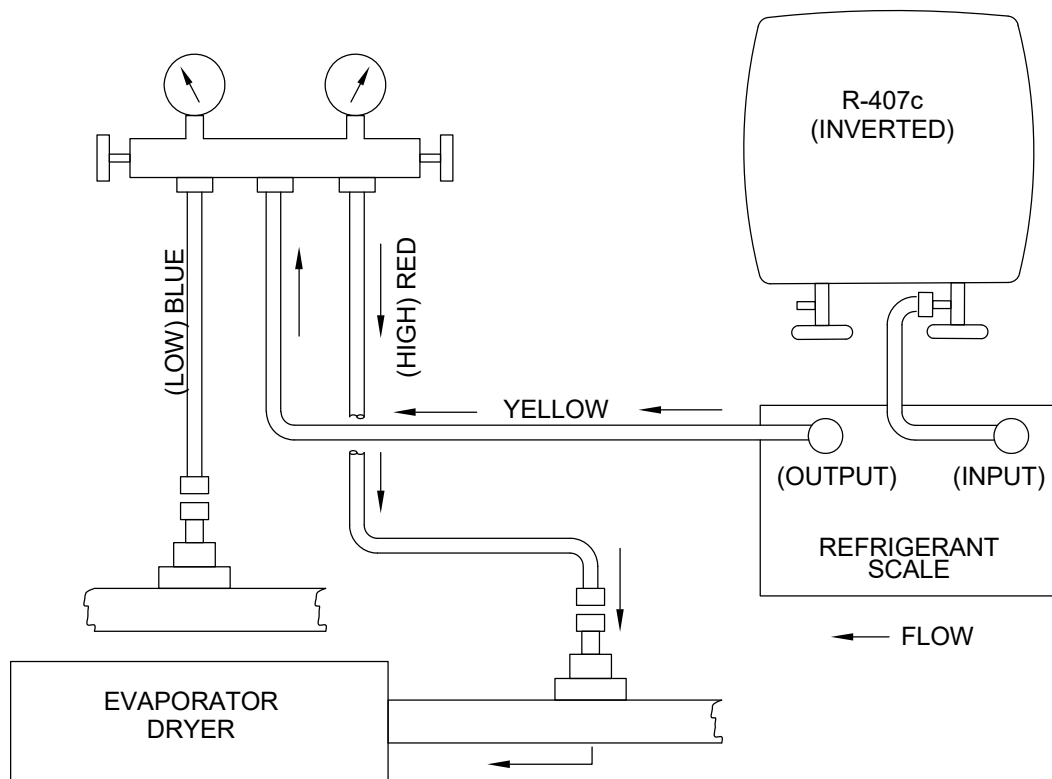

Figure 2. System Charging (Using Electronic Refrigerant Scale).
3. Connect refrigerant hose (yellow) from service gauges to output on electronic refrigerant scale (see Figure 2).
4. Connect refrigerant hose from bottle of R-407C to input side of electronic refrigerant scale (see Figure 2).